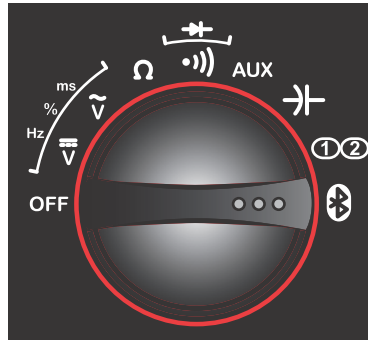

Figure 13-3 Rotary switch Remote Functions setting
5. With Bluetooth Discovery enabled, turn the M2 Scope/Meter Rotary Switch to the Remote Functions position (Figure 13-3).